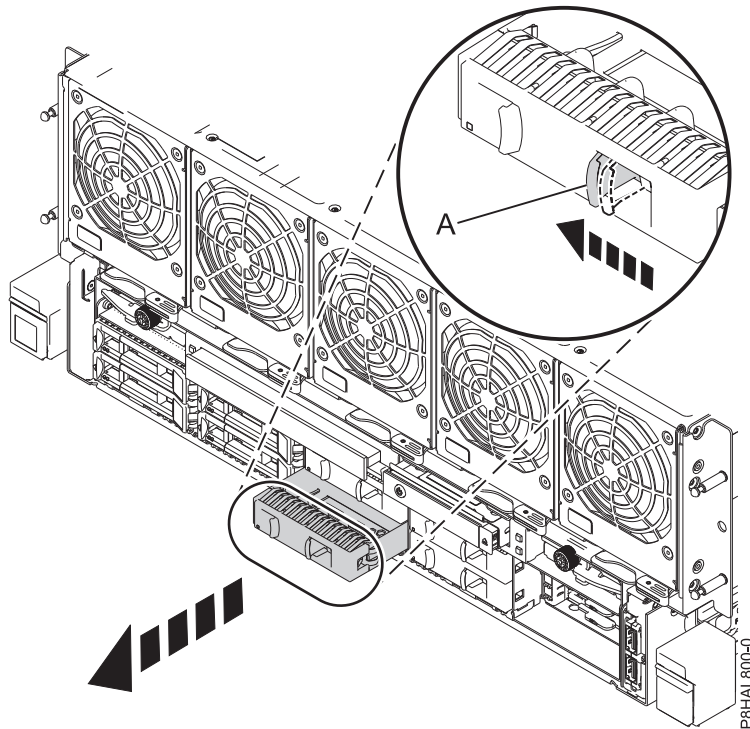

Figure 2. Removing a disk drive filler from an 8408-44E or 8408-E8E system
- a. Push the lock (A) on the handle of the filler in the direction that is shown in Figure 2 on page 5.